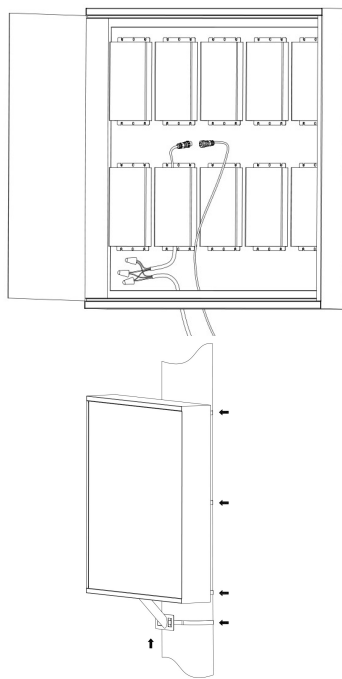

FIG.13
5) Connect the junction box of lighting fixture to the extension cable. (**The two cores cable and the three cores cable are need to be corresponding connected.**) The DC wire of the lamp must be connected to DC wire of the LED driver accordingly by waterproof connector. The mains terminal is introduced into the derive box from the bottom of the lamp pole, which is connected to the AC terminal of the LED driver. (See FIG.13, FIG.15 and FIG.16)